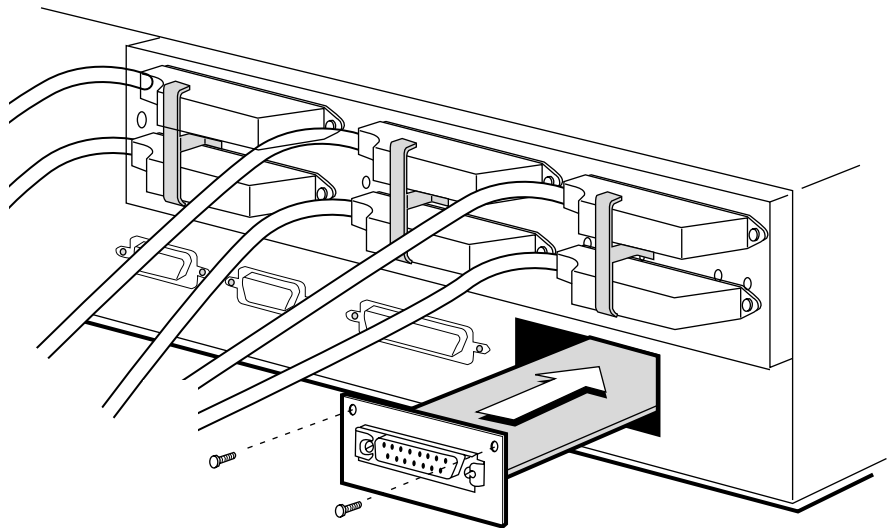

Figure 5-3 Installing the Ethernet Interface Module
- b** Slowly slide the module into the slot, being careful to align the board edges with the guide rails in the chassis, as shown in Figure 5-3.